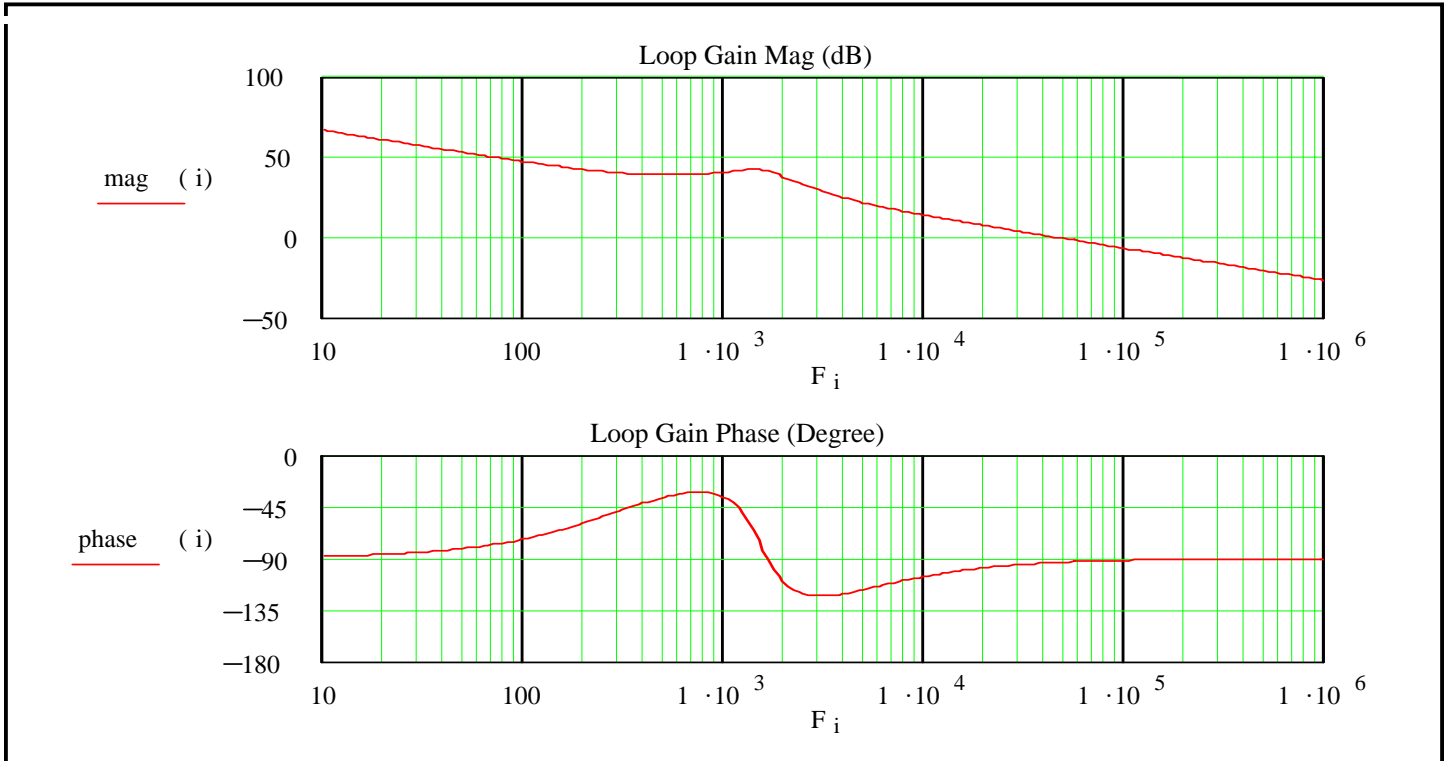

Fig. 2. Bode plot of the VDDQ Channel
Step 6. Generate Bode plot and check the phase margin. In this case, the phase margin is about 85°C that ensures the loop stability. Fig. 2 shows the Bode plot of the loop.